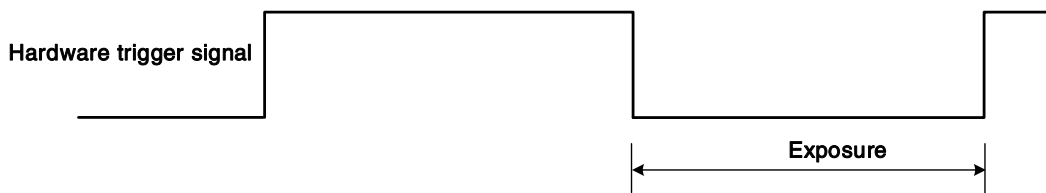

Figure 8-29 The sequence diagram in falling edge trigger of TriggerWidth exposure mode
- If falling edge triggering is enabled, exposure starts when the trigger signal falls and continue until the trigger signal rises, as shown in Figure 8-29